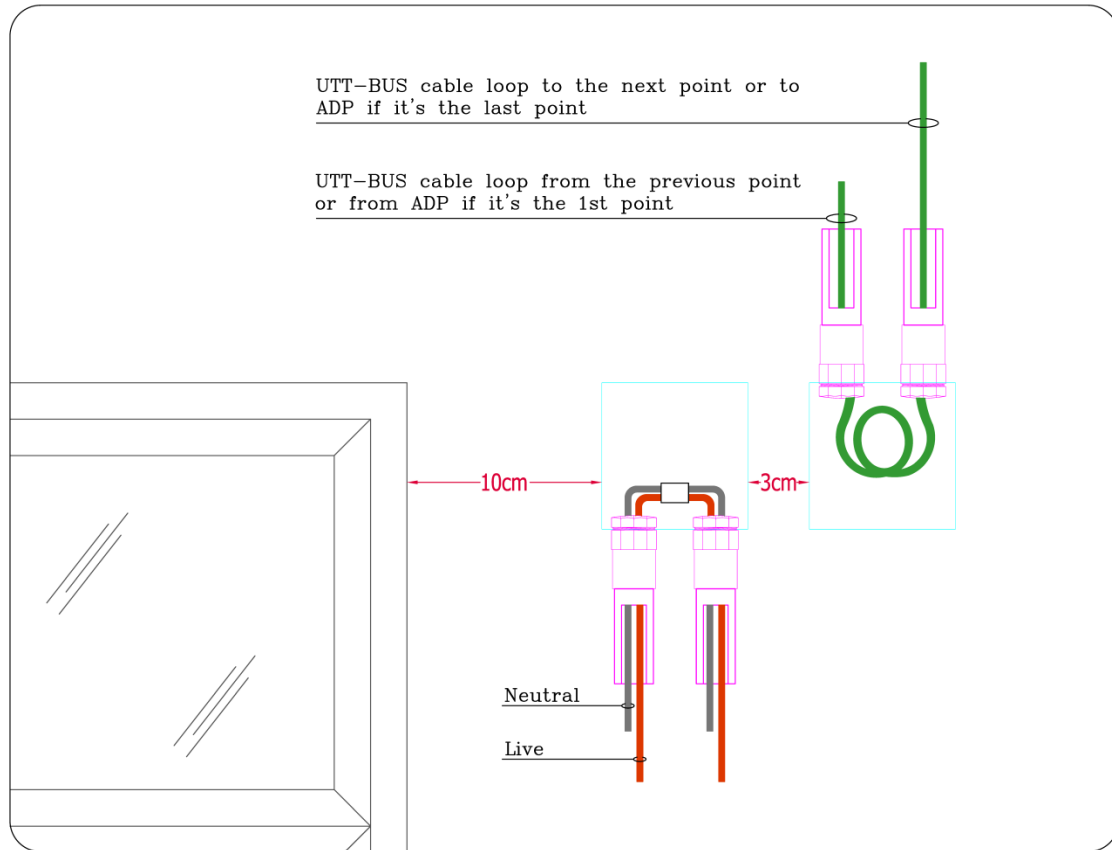

Figure 1.2.9: Shade & Curtain Connections
- Two back boxes with blank plates should be provided at the top right side of all windows at the curtain location (10-20 cm away from the window frame) as in Figure 1.2.9. As a suggestion, creating a curtain box helps hiding the back boxes.